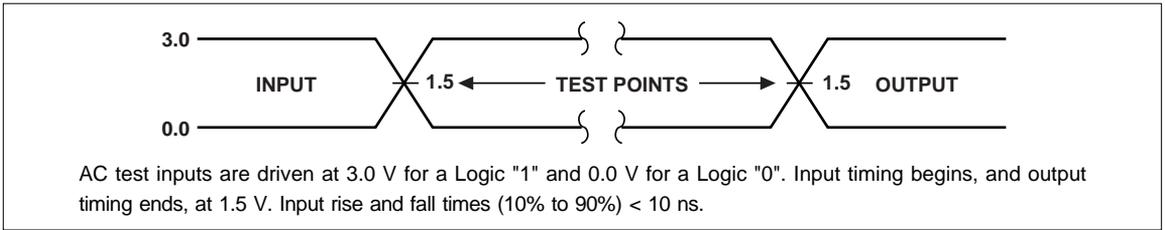
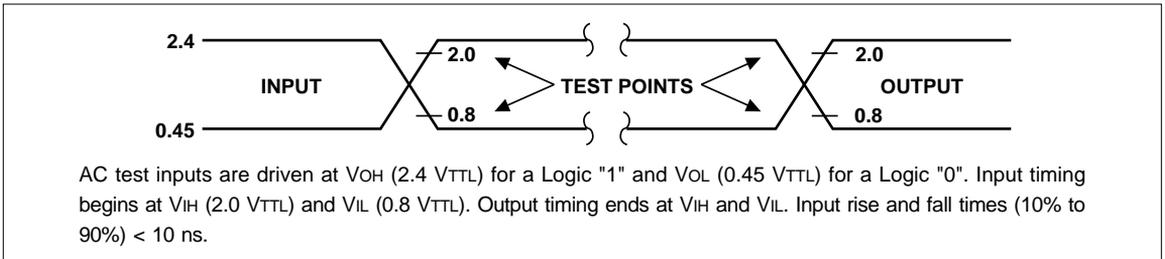
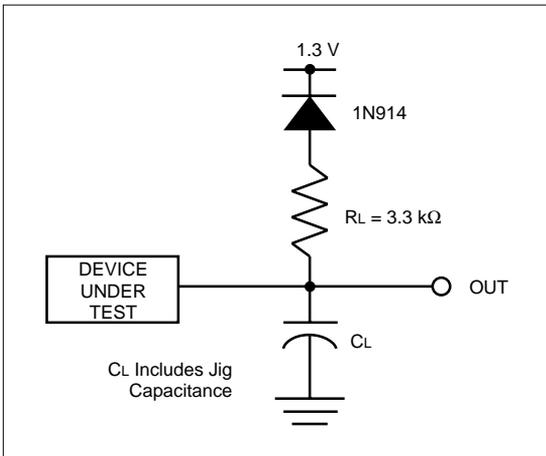

Fig. 5 Transient Input/Output Reference Waveform for  $V_{CC} = 5.0 \pm 0.25$  V (High Speed Testing Configuration)
Fig. 6 Transient Input/Output Reference Waveform for  $V_{CC} = 5.0 \pm 0.5$  V (Standard Testing Configuration)
Fig. 7 Transient Equivalent Testing Load Circuit
1. See AC Input/Output Reference Waveform (Fig. 5 and Fig. 6) for timing measurements.
4. See Fig. 5 "Transient Input/Output Reference Waveform" and Fig. 7 "Transient Equivalent Testing Load Circuit" (High Speed Configuration) for testing characteristics.
5. See Fig. 6 "Transient Input/Output Reference Waveform" and Fig. 7 "Transient Equivalent Testing Load Circuit" (Standard Configuration) for testing characteristics.
- See **Fig. 5 "Transient Input/Output Reference Waveform"** and **Fig. 7 "Transient Equivalent Testing Load Circuit"** (High Speed Configuration) for testing characteristics.
- See **Fig. 6 "Transient Input/Output Reference Waveform"** and **Fig. 7 "Transient Equivalent Testing Load Circuit"** (Standard Configuration) for testing characteristics.